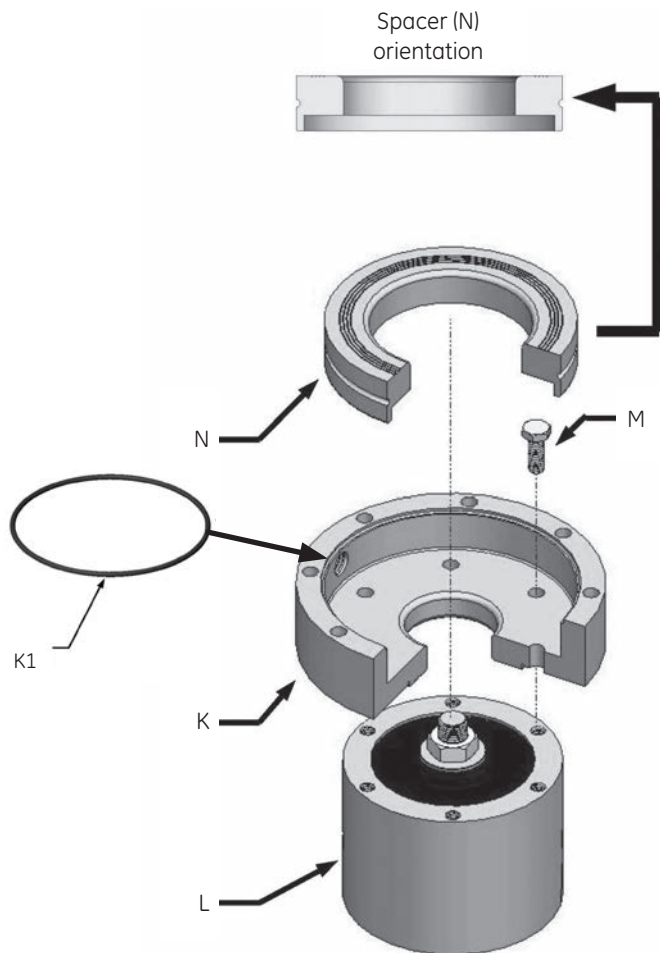

Figure 26 – 175-CH Bottom Flange Assembly
Step 1: Fasten the bottom flange (K) into the top body assembly (L) using six (6) 1/4-20 X 3/4 inch SHCS (M) and insert O-ring - 046 (K1) in the O-ring groove in the bottom flange (K) as shown in Figure 26
Step 2: Place the spacer (N) inside the bottom flange (K).